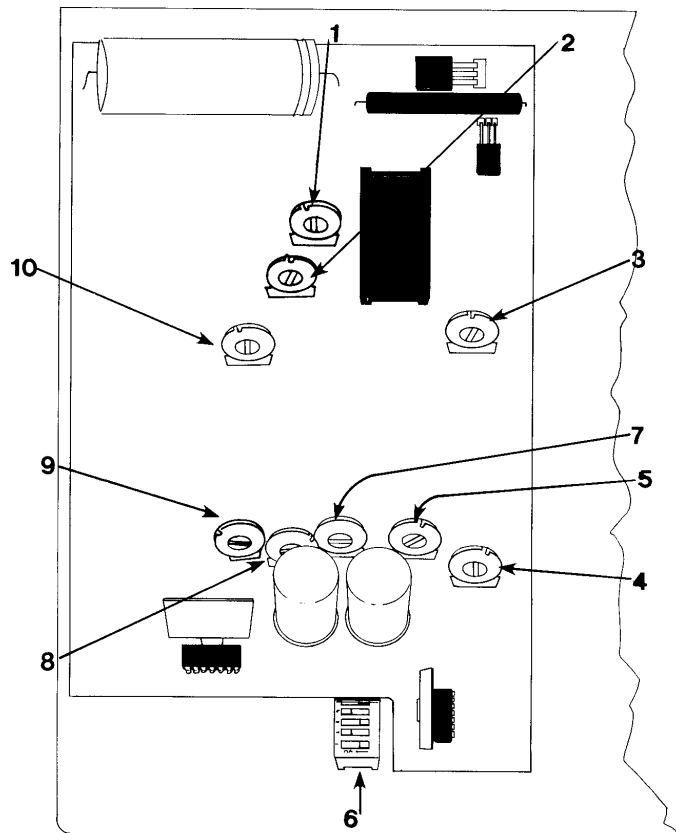

Figure 2: Audio Board Adjustments
CRASH has three switch selectable options. These are controlled by a seven segment DIP switch located on the main logic board at position 14A (see Figure 2, item 6). This switch is accessible from the front of the game through the coin door.
### IV. AUDIO ADJUSTMENTS (Figure 2)